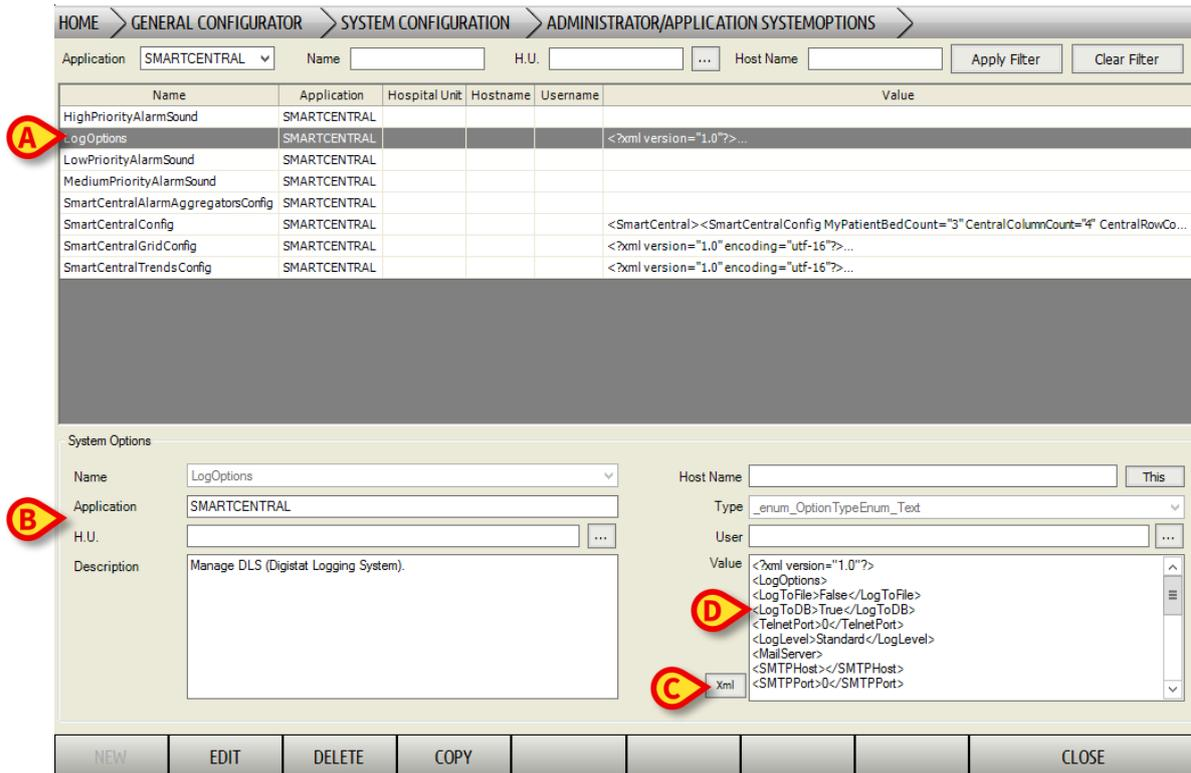

Fig 30
1. Click the LogOptions system option on the list of system options displayed on screen (Fig 30 **A**).
The corresponding row is highlighted, the system option details are displayed on the lower area of the screen (Fig 30 **B**).
2. Click the **Xml** button indicated in Fig 30 **C**. The following window opens
The resulting xml file will be displayed on the System Options screen, in the area indicated in Fig 30 **D**.